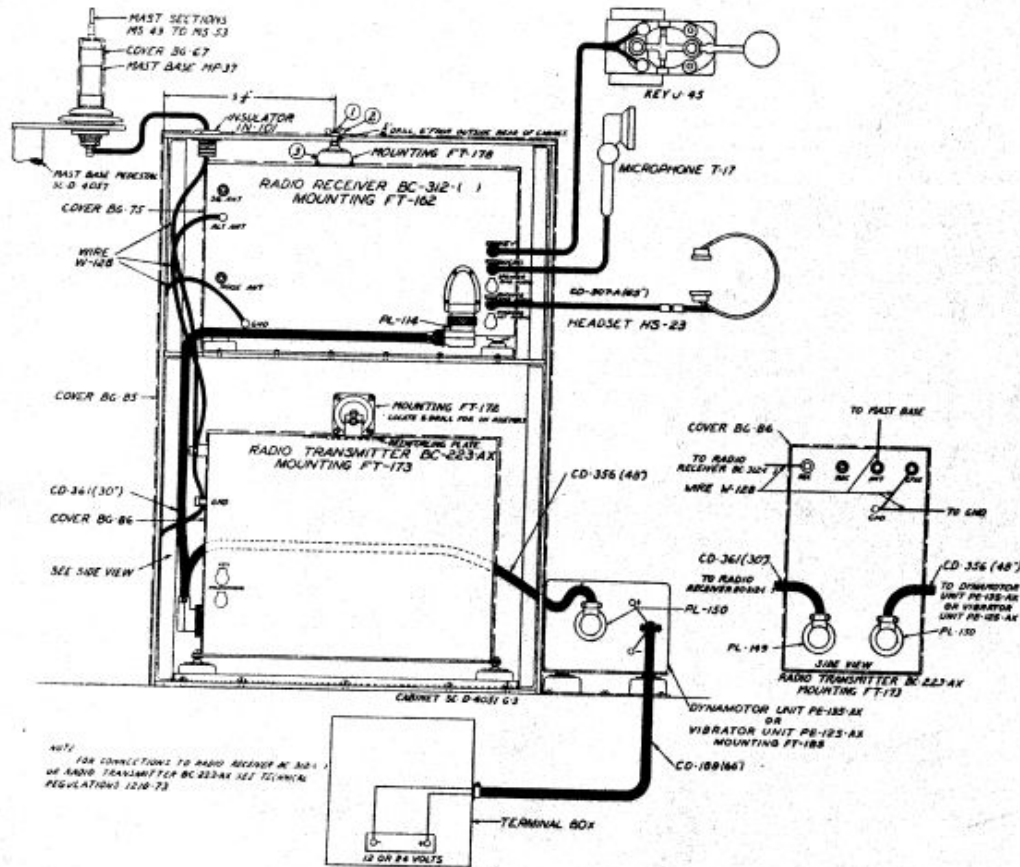

Figure 2—Radio Set SCR-245-GX—Cording Diagram
b. Instructions.—Detailed information relative to the installation of these sets is found in installation instructions for the particular type of vehicle concerned. These instructions are issued to using organizations, and because of their volume and possible changes, will not be repeated here. Figures 2, 3, 4, 5 and 6 show the external wiring and cording diagrams of the radio sets when installed.
c. Minor Replacements.—Replacements of such parts as pilot lamps, tubes, and crystals, are made as indicated in (1) and (2) below. All controls, knobs, switches, jacks, etc. identified by markings will hereafter be designated by such markings; that is, a three-position switch on the front panel of the transmitter has the marking CW TONE VOICE above the three possible positions of the switch pointer. This switch will hereafter be designated the CW TONE VOICE switch.